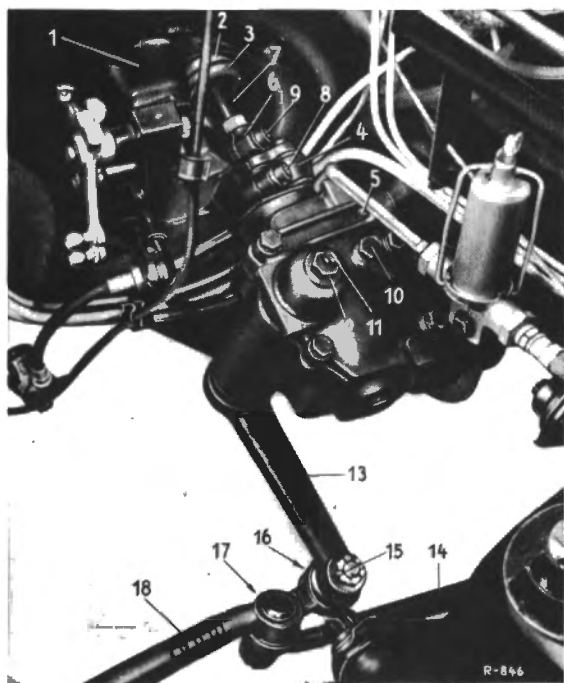

Fig. 46-1/1
1. Unscrew the hexagon socket screw (clamping screw) (8) from the lower flange (4) of the steering coupling (Fig. 46-1/1).
3. Unscrew the three hexagon screws (5) for fastening the steering assembly to the chassis base panel from the outside. Then pull the steering worm off the steer-
ing coupling and take out the steering assembly downward (Fig. 46-1/1).